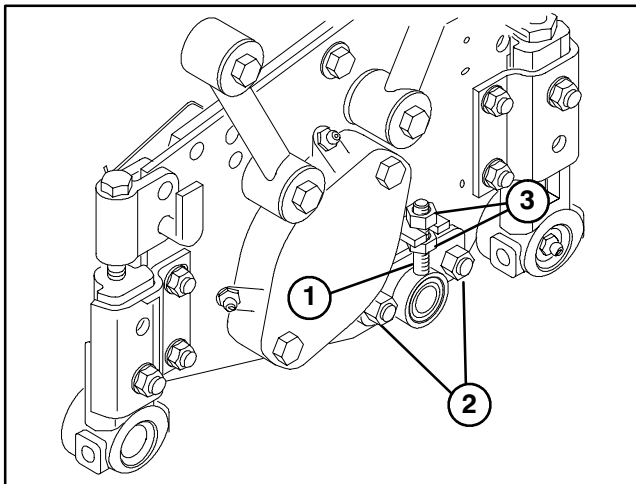

Figure 4
5. Loosen (2) carriage bolts on bedbar adjuster (Fig. 4).
6. Adjust nuts to move bedbar adjuster up or down until paper is pinched along entire bedknife surface, when bedknife adjustment knob is adjusted to no more than two clicks beyond first contact of reel bedknife (Fig. 4).